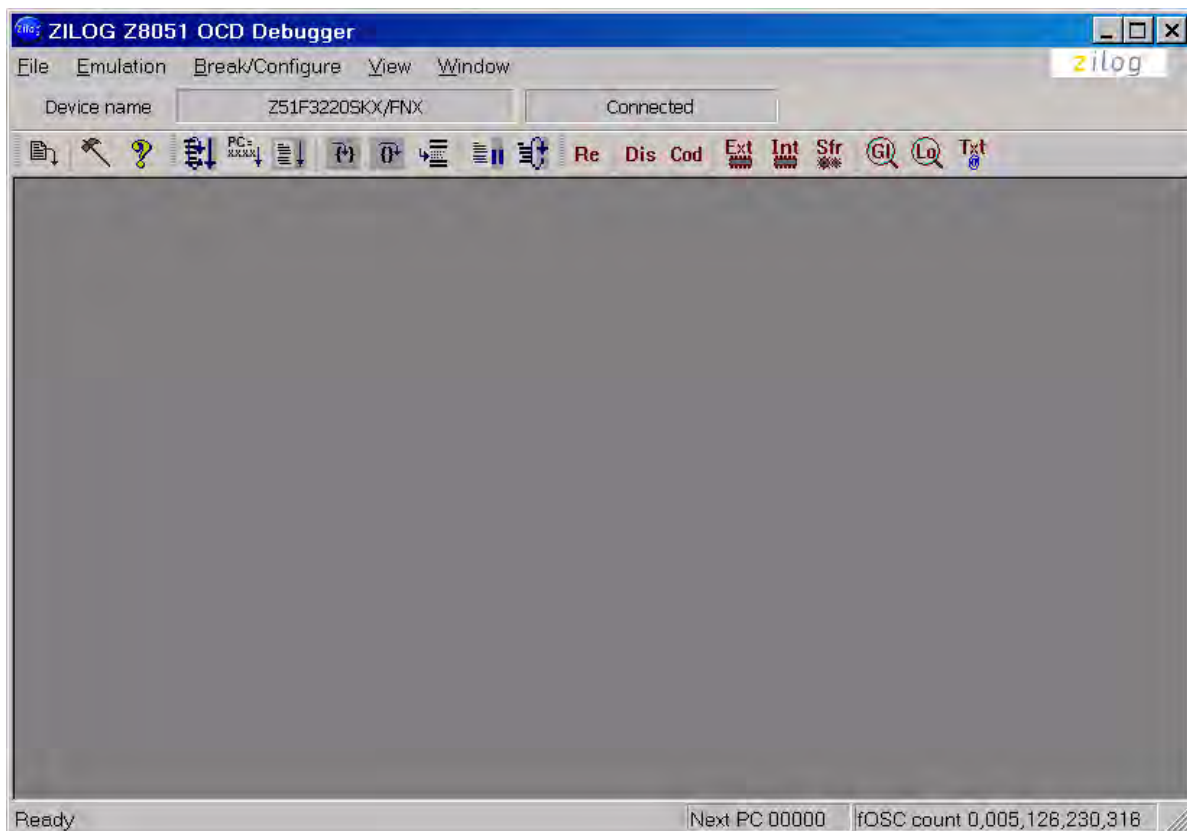

Figure 20. A Typical On-Chip Debugger Window
9. Click **OK** to open the On-Chip Debugger's main window. A typical OCD display is shown in Figure 20; Figure 21 shows an OCD window with child windows open.